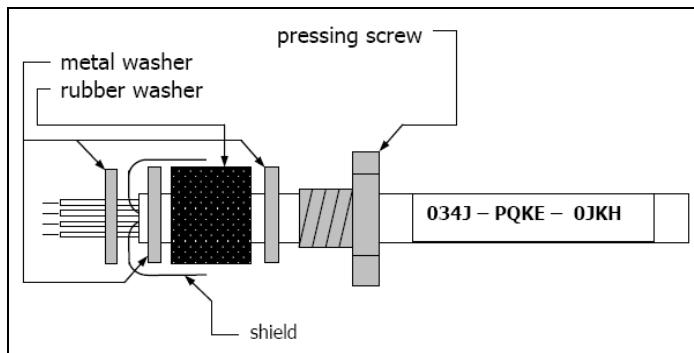

Figure 17: Cable assembling
2. Extract about 4 mm of the wire insulation and tin the wire ends. Place the pressing screw, the rubber washer and the metal washers of the cable gland one after the other onto the prepared cable end (see **Figure 17**).